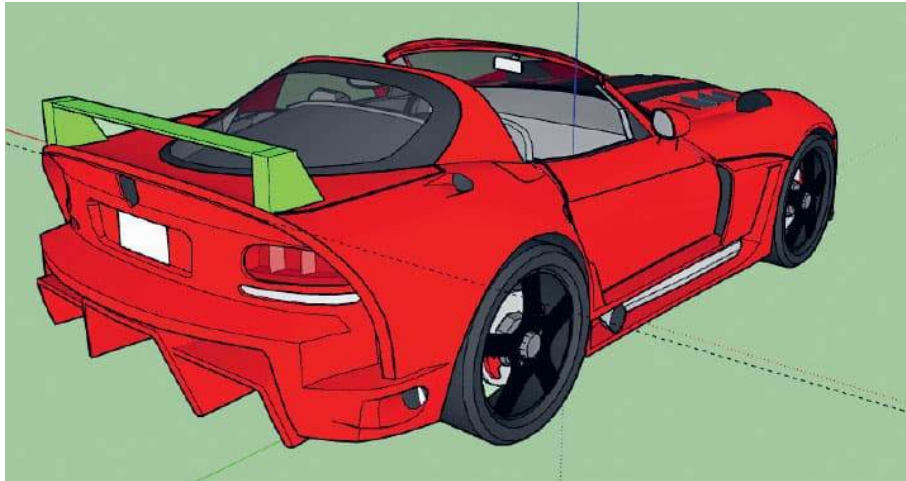

FIG. 5: Merge the wing and brackets and move to the car.
5. Move the rear wing and brackets together to the rear of the car as seen in fig. 5.